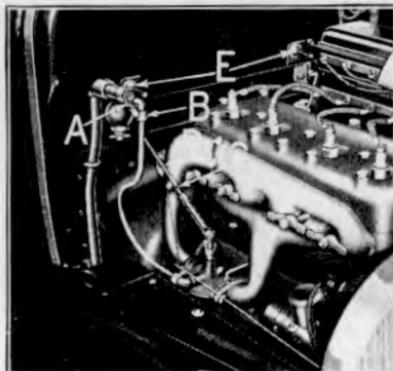
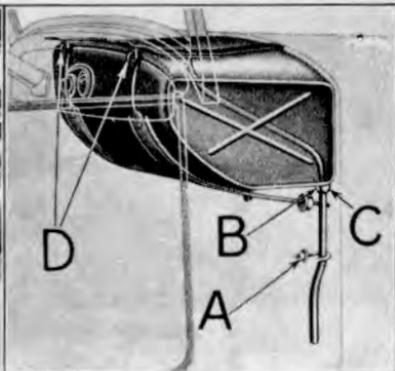

Fig. 561
Fig. 562
Close shutoff cock on sediment bulb. See "A" Fig. 561.
- 1232** After draining gasoline from tank, loosen nut on end of overflow pipe clamp (see "A" Fig. 562).
- 1234** Remove cotter key (see "C" Fig. 561) and withdraw carburetor adjusting rod "D" through dash.
- 1235** Run off the two gasoline tank strap nuts (see "E" Fig. 561 and lift off washers.
- 1242** Withdraw gasoline tank straps through dash into body, bending the straps straight down as shown in Fig. 564. The straps are hooked into brackets which are located at the top of the cowl (see "D" Fig. 562). By unhooking the straps from these brackets, the straps can then be withdrawn.
- 1246 Hook the two tank straps into brackets at top of cowl (see "D" Fig. 562). Bend the straps so they will fit closely against tank and insert the threaded ends of straps through holes in dash. Place a spacer washer and lock washer over ends of straps. Start nuts on ends of straps and run them down tightly (see "E" Fig. 561).
- 1247 Insert overflow pipe into sediment bulb connection (see "C" Fig. 562) lining up screw hole in pipe with set screw "B" in connection. The set screw is then run down until it enters pipe.
- 1248 Position overflow pipe clamp over pipe (see "A" Fig. 562) running down nut tightly on end of clamp.
- 1250 Insert feed pipe into sediment bulb elbow and run down feed pipe pack nut (see "B" Fig. 561).
- 1251 Open shutoff cock on sediment bulb (see "A" Fig. 561).